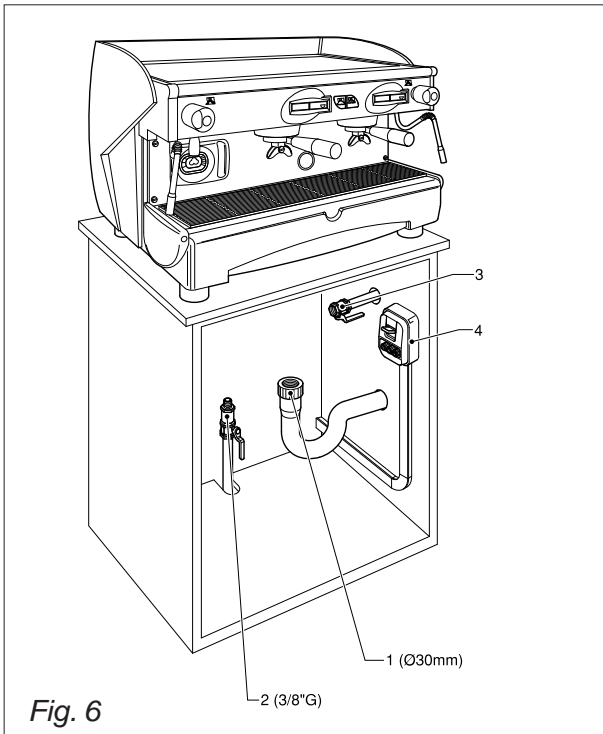

Fig. 6
6.1.1. Water and gas supply (Fig.6)
In both cases it is necessary to provide an automatic differential switch (Fig. 6) at the start of the power cable, complete with magnetic release elements in accordance with the identification plate details (Fig. 1). The contact opening must be equivalent or over 3 mm.
- Turn on the water supply tap 2 Fig.6.
- Turn on the water supply tap 2 (Fig.6).
- Turn on the gas tap 3 (Fig.6).